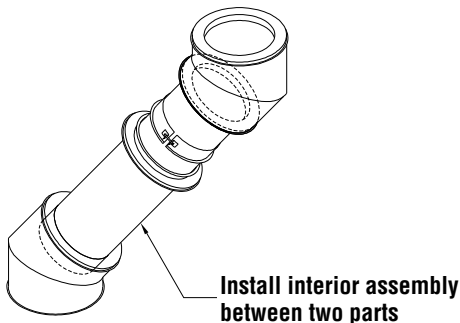

Figure 61 - Variable length, Installation step C
- c. Install the interior assembly between the two parts. Put one bead of sealant between the couplings flanges as a regular length installation. See **figure 61**.